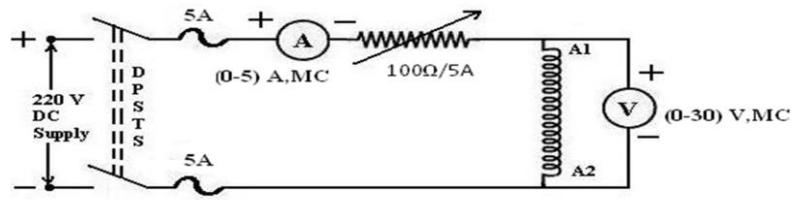

Fig 11.3: Circuit diagram for finding stator resistance
1. Connect the circuit as per the fig 11.3.